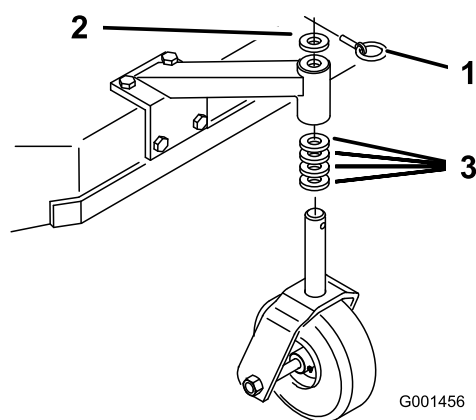

Figure 17
1. Using the Height-of-Cut Chart, adjust the caster spacers to match with the axle hole selected (Figure 17).
2. Remove the latch pin, slide the caster from the support, and change the spacers (Figure 17).
3. Install the caster in the support and insert the latch pin (Figure 17).